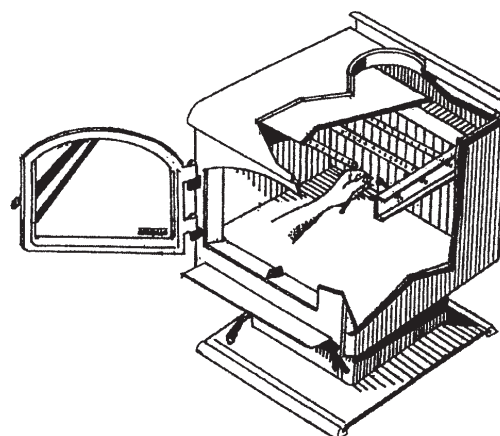

FIGURE 2
4. Soak the secondary combustion tube retainer bolts, on the secondary air channel under the end of each tube, with penetrating oil for at least 15 minutes. Use a 3/16" Allen Wrench to remove the bolts. **See Figure 2.**